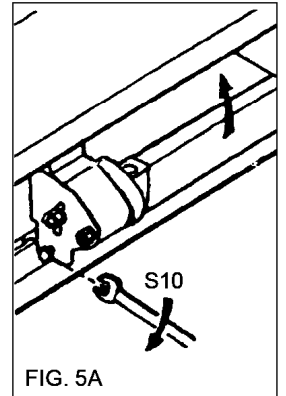

FIG. 5A
- The height of the hinge of the arm in closed position, can be adjusted as shown on fig. 5A.